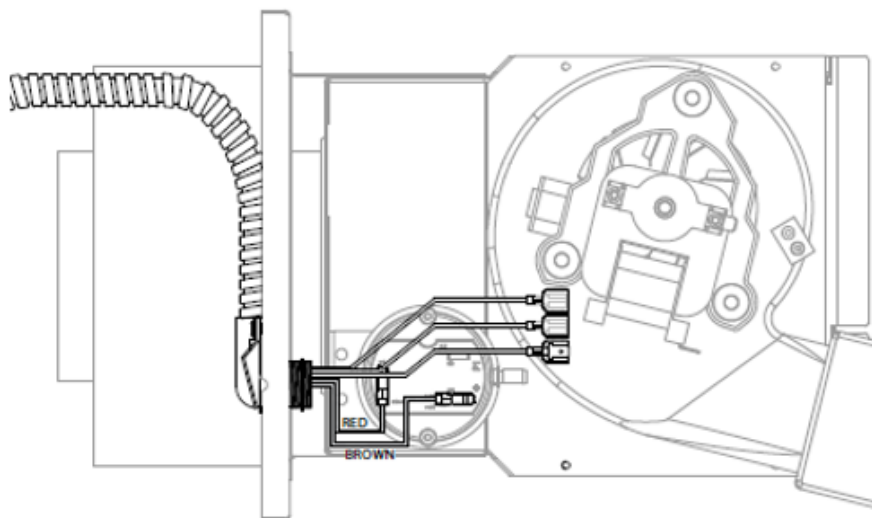

Figure 6.11 - Red and Brown Wiring to Vacuum Switch
1. After mounting the wiring harness to the back assembly of the Kozy Power Vent in step #4 of Section 6.1 you will proceed with wiring connections at the power vent. Attach the red and brown wires to the vacuum switch as shown in Figure 6.11.